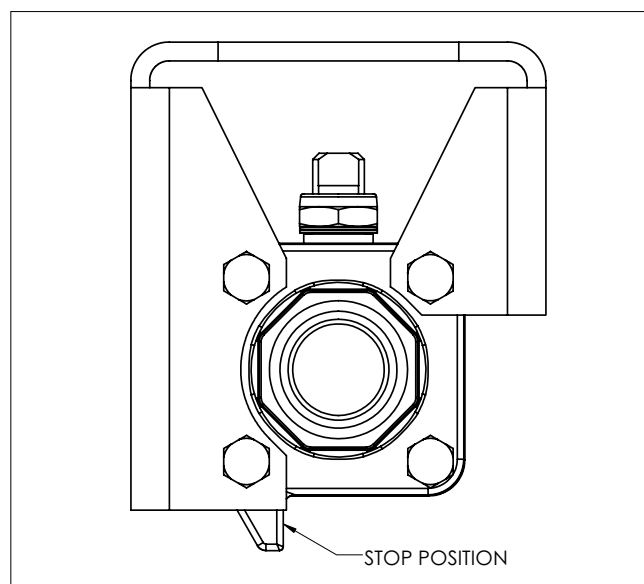

Figure 6. Stop Position for Actuated Valve
Although *Jamesbury* valves are designed to work under severe conditions, proper preventative maintenance can significantly help to prevent unplanned downtime and in real terms reduce the total cost of ownership. Valmet recommends inspecting valves at least every five (5) years. The inspection and maintenance frequency depends on the actual application and process condition. Routine maintenance consists of tightening the hex nuts (16) in (Figure 6) periodically to compensate for stem seal wear. The valve should be fully closed during the tightening. **CAUTION:** Tightening hex nuts (16) too severely will shorten the life of the shaft seals.
- c. From **Figure 6**, the ballooned part number, part name and quantity required.
8. Insert the second seat (5) in the body cap (2) so that the sealing surface of the seat is towards the ball (**see detailed diagram in Figure 6**).
9. Assemble the body cap (2) to the body (1). Insert the four body bolts (52). The bolt heads should be on the body cap.
NOTE: The handle stop is part of the body cap (2). When assembling the valve, be sure the handle stop that projects from the body cap is in the upper right corner as the body cap faces you (see **Figure 6**).
10. Place the four lock washers (55) over the body bolts (52). Thread on the four hex nuts (53) and tighten until snug.
11. Assure that the body and body cap are properly aligned. Tighten the body bolts alternately in a diagonal pattern in 2 lb.-ft. increments until achieving torque values in the Recommended Torques for Body Bolt Table in **Figure 6**.
9. Assemble the body cap (2) to the body (1).
11. Insert the four body bolts (52). The bolt heads should be on the actuator bracket. Place the four lock washers (55) over the body bolts (52). Thread on the four hex nuts (53) and tighten until snug.
12. Assure that the body and body cap are properly aligned. Tighten the body bolts alternately in a diagonal pattern in 2 lb.-ft. increments until achieving torque values in the Recommended Torques for Body Bolt Table in **Figure 6**.
3. Slightly loosen Body Bolts (52) securing bracket. This will allow the bracket to be manipulated for alignment purposes.
4. Ensure Body and Cap are still properly aligned. Visually straighten the actuator over the valve. Once straight, torque the Hex Head Cap Screws securing the bracket to the valve, using the values in the Recommended Torques for Body Bolt Table in **Figure 6**.